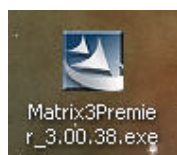

FIG. 15
3. Double click the Matrix3Premier.exe icon (FIG. 15).